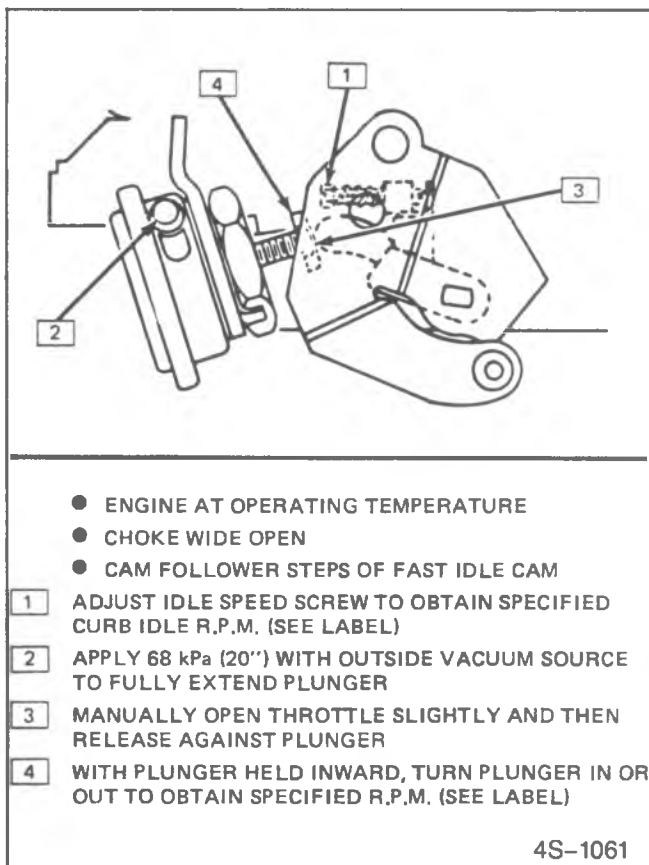

Figure 39—Throttle Lever Actuator Adjustment
- If the engine rpm noted in Step 3 is not within the specified TRC speed range, the TRC actuator must be adjusted. Refer to figure 39 and Vehicle Emission Control Information label for adjustment of the throttle lever actuator.